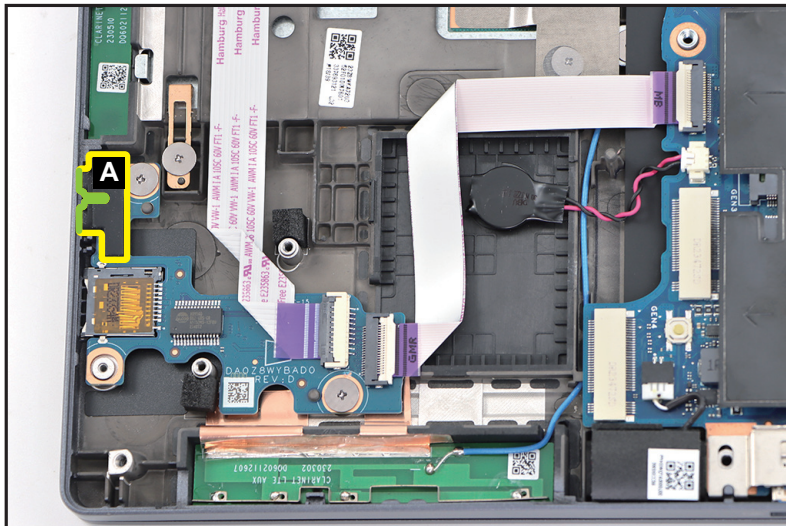

Figure 1-50. LED Board Removal
1. Detach the rubber (A) from the LED board (Figure 1-50).